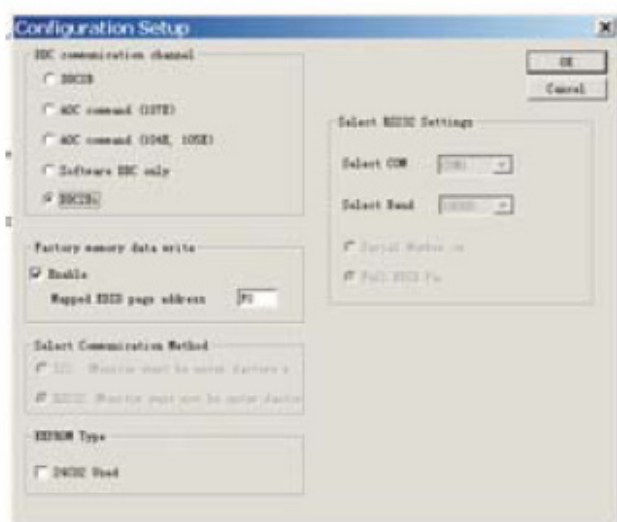

Fig. 29
2. Select the DDC2Bi as the communication channel. As shown in Fig. 29.